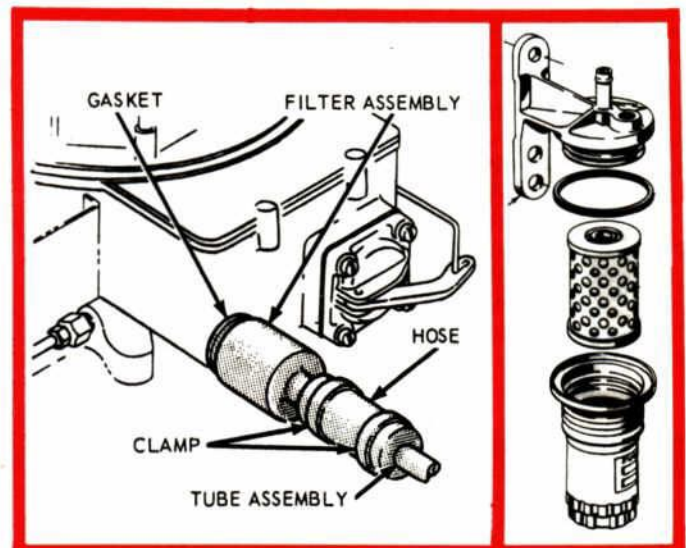
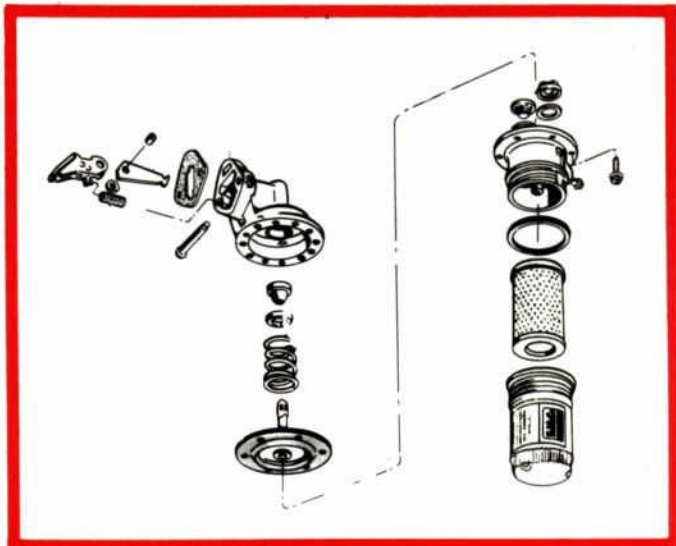

Figure 13—In-Line Fuel Filters
Figure 14—Integral Fuel Filter
1. Check for a clogged or restricted fuel filter. Some are located between the fuel pump and carburetor, (Figure 13) and some are part of the fuel pump, (Figure 14). To check in-line filters, disconnect the fuel inlet line from the fuel pump side of the filter. Crank the engine (with the coil to distributor wire removed) and note if any gas is ejected from the fuel line. CAUTION: IF THE ENGINE BLOCK IS HOT, USE A CONTAINER TO CATCH THE GAS TO AVOID A POSSIBLE FIRE. If gas is ejected, the filter is at fault and should be replaced. To check filters that are part of the fuel pump, replace with a known good filter.